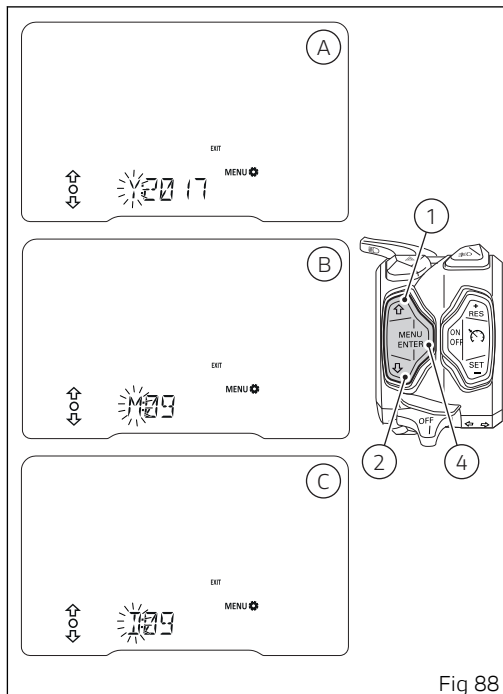

Fig 88
Select "Y" option flashing (A, Fig 88), by pressing button (1) or (2).
Once you reach the value to be set, press button (4) and the set year will stop flashing, while "Y" will be again flashing (A, Fig 88).
Select "M" option flashing (B, Fig 88), by pressing button (1) or (2).
Once you reach the value to be set, press button (4) and the set month will stop flashing, while "M" will be again flashing (B, Fig 88).
Select "D" option flashing (C, Fig 88), by pressing button (1) or (2).
Once you reach the value to be set, press button (4) and the set day will stop flashing, while "D" will be again flashing (C, Fig 88).